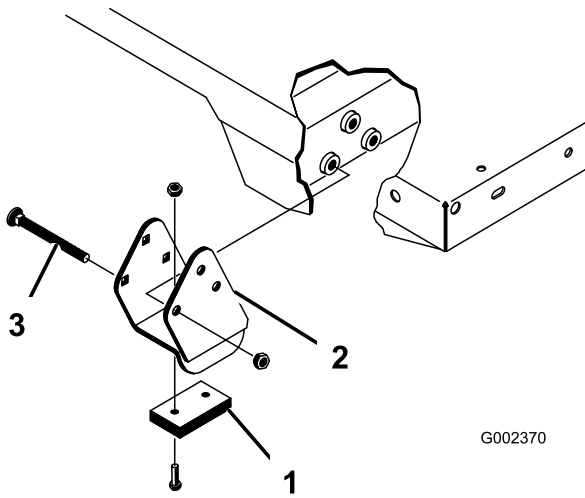

Figure 36
Note: Ensure that the spacer brackets and wear blocks (Figure 36) are installed with the carriage-bolt heads positioned inside the machine.
2. Carefully set the bed onto the machine frame, aligning the rear bed pivot-plate holes with the holes in the rear frame channel and install 2 clevis pins and lynch pins (Figure 36).
4. Insert the clevis pin from outside of the bed with the lynch pin toward the outside (Figure 36).